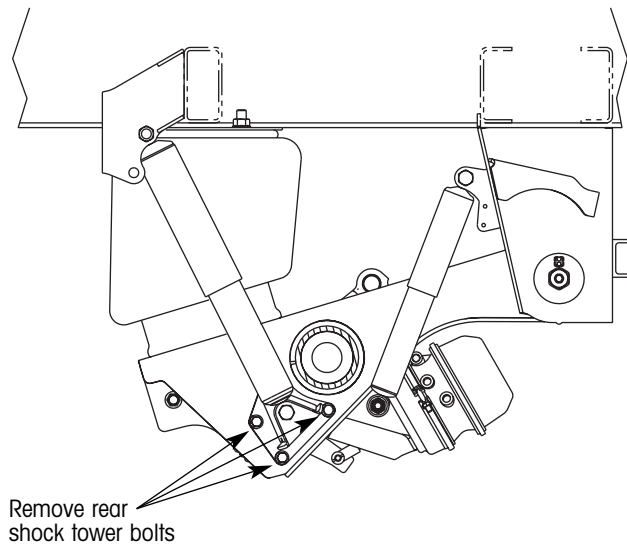

Figure 3. Rear shock tower mounting hardware removal
1. Remove and discard the lower three nuts and bolts holding the rear shock tower to the suspension beam (figure 3).